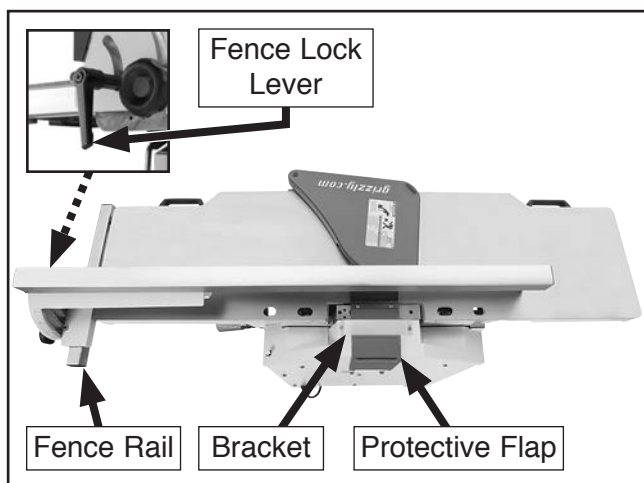

Figure 38. Fence removal components (G0634XP).
3. **G0634ZXP:** Loosen fence lock lever, slide fence toward front of machine, carefully slide protective flap through bracket, and lift fence off of fence rail (see **Figure 38**).